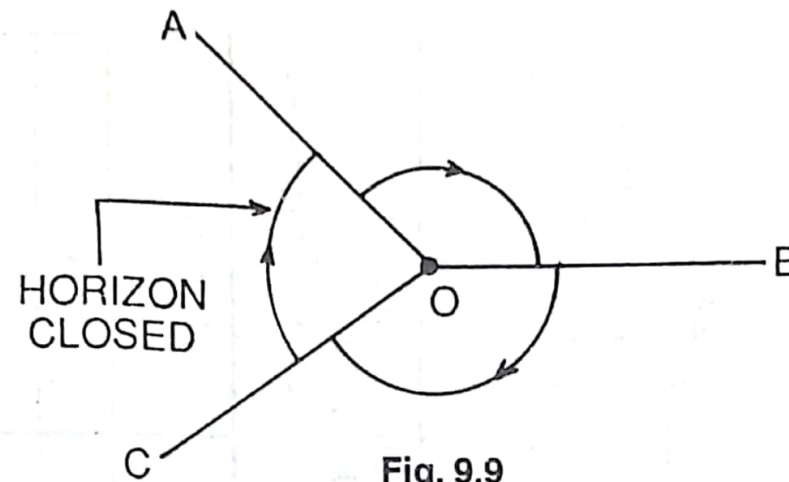

Fig. 9.9
1. The theodolite is perfectly centred over O (Fig. 9.9) and levelled properly in the usual manner. Suppose, the observation is taken in the face left position and the telescope is turned clockwise (right swing).